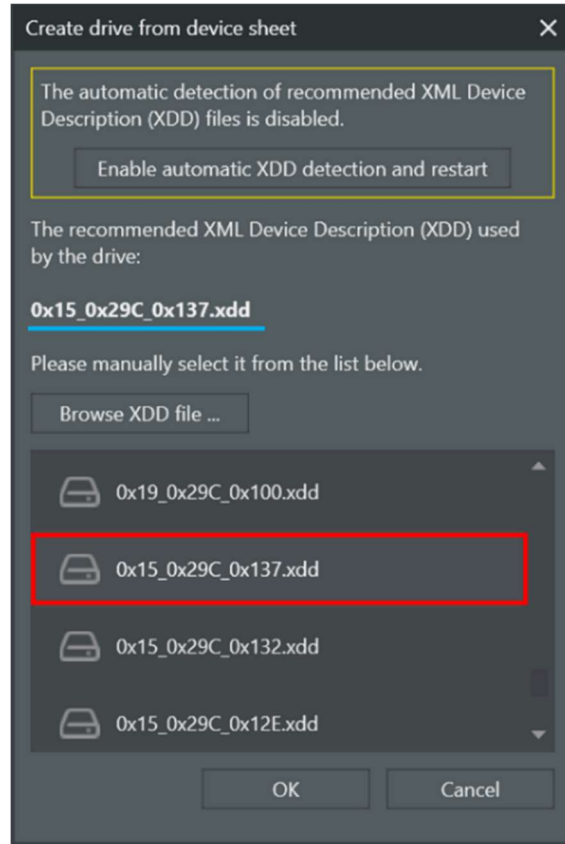

Fig. 81: Manually selecting an XDD file.
- 10) In the popup window search for and select the recommended XDD (cyan underline in **Fig. 81**). Click "Ok."